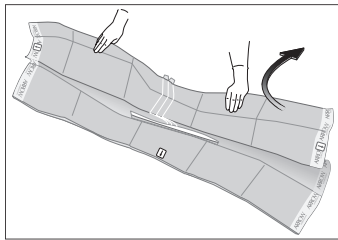

Fig. 10
- Unfold towards head (refer to Fig. 10).